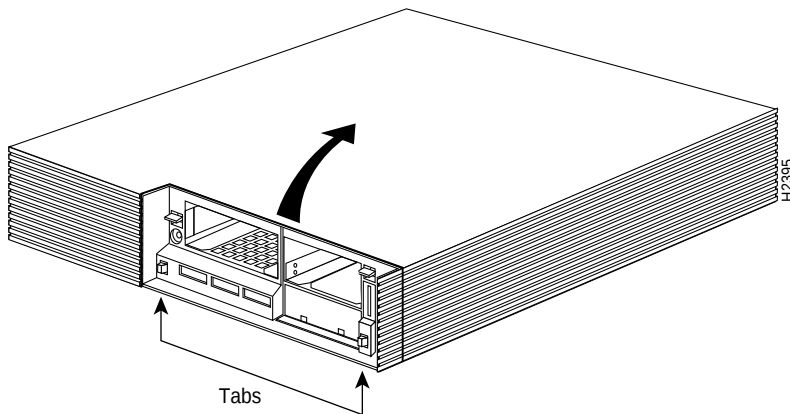

Figure 4-2 Removing the Cover
- Step 2** Pull the cover up and rotate toward the back of the chassis. (See Figure 4-2.)